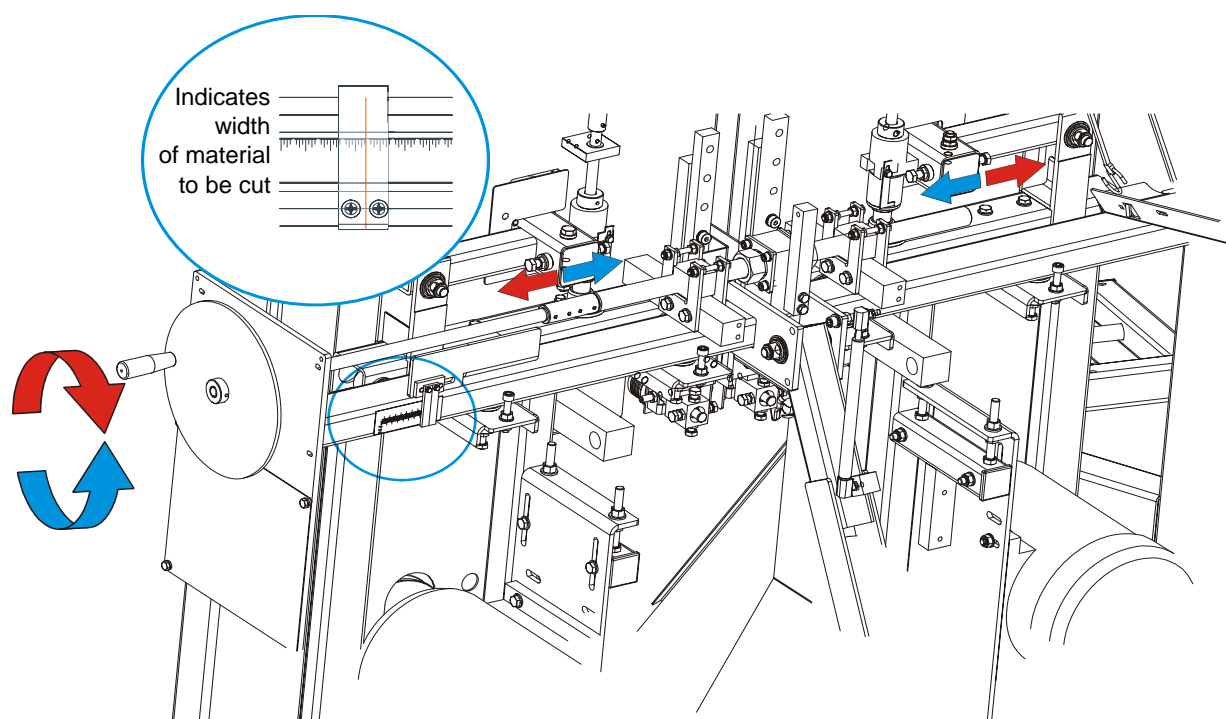

FIG. 2-7
**See Figure 2-7.** To move the saw heads in, turn the handle left. To move saw heads out, turn the handle right.